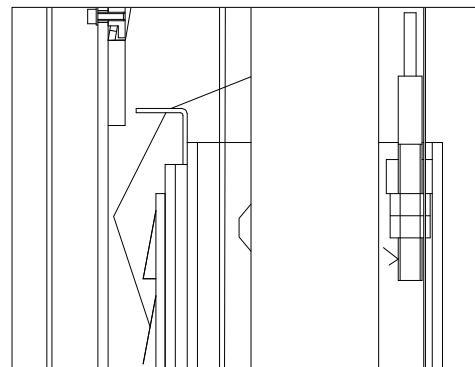

Fig. 15
- ◆ Keep both cables in balance during raising or lowering. (**Fig. 15**)